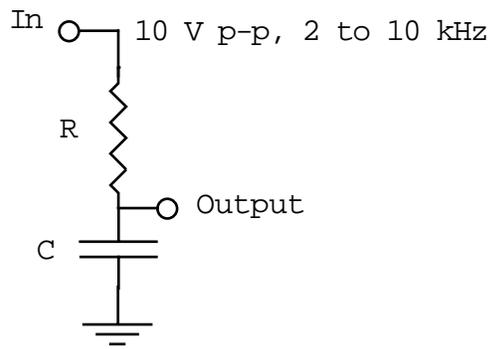
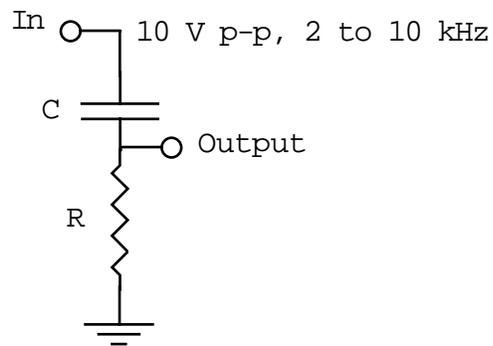

Fig 1
Fig 2
1) Connect the circuit in Fig. 1, choosing values of the resistor and the capacitor so that the reactance of the capacitor, $1/2\pi fC$, is equal to the resistance at a frequency of 4 to 5 kHz. The reactance will of course be different at different frequencies.
2) Connect the circuit in Fig. 2, which is complementary to the circuit in Fig. 1. Using both the digital meter and the scope, measure the output voltage as a function of frequency at the same frequencies as in Part 1. *What is the output with a dc input? What is the output at 100 kHz? What is the relationship between this plot and the plot obtained in part 1?*
With a square wave input, what are the measured rise times and fall times at the output of the circuit in Fig. 1? How do they compare with the product R times C ? How do they compare with the break point frequency obtained in Part 1?
With a square wave input, what are the measured decay times at the output of the circuit in Fig. 2? How do they compare with the product R times C ? How do they compare with the break point frequency obtained in Part 2?
Consider a resistor and a capacitor in series, as shown in Fig. 1. Suppose points A and C have constant voltages, V_A and V_C , respectively. Then the voltage at point B, V_B , is either the same as the voltage at point A, or it is approaching it exponentially: